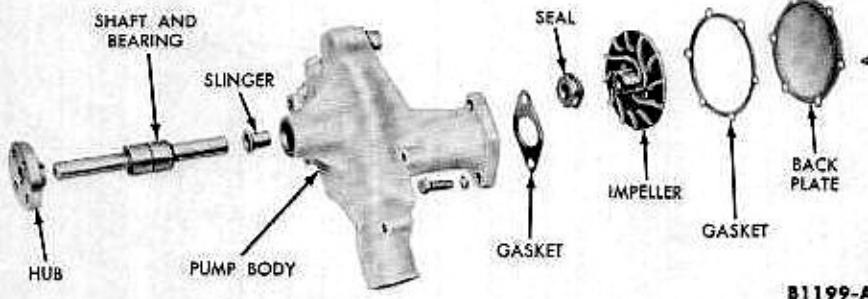
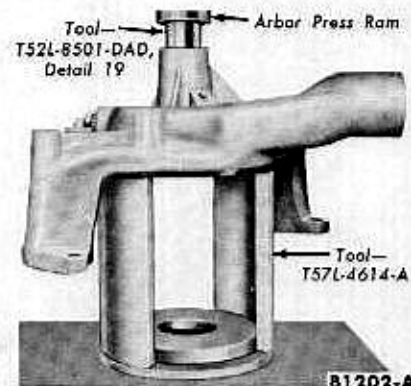

FIG. 1—Typical Water Pump Assembly
FIG. 4—Seal Removal
A single water pump assembly is used and is shown disassembled in Fig. 1. The pump is equipped with a sealed bearing integral with the water pump shaft. The bearing requires no lubrication. The hole in the water pump housing (Fig. 4) is a bleed hole to allow water that may leak past the seal to be thrown out by the slinger. This is not a lubrication hole.
3. Press out the pump seal (Fig. 4).